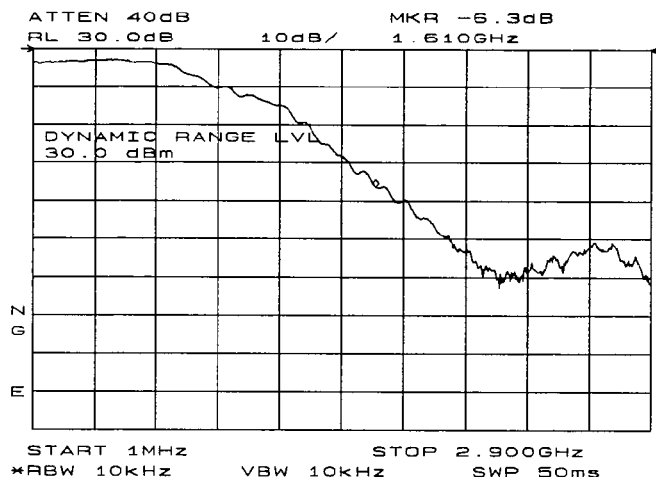

Figure 3-29. RANGE LVL adjusts analyzer settings for compression-free measurements.
After returning the **NORM REF LVL** to 0 dB, increase **RANGE LVL** to 30 dB. As shown in Figure 3-29, the trace moves fully within the graticule. Again, note the following three instrument parameters: (1) the input attenuator value has changed to 40 dB, (2) the marker-amplitude readout displays -6.3 dB, and (3) the **ERR 903 A>DLMT** error message no longer appears.